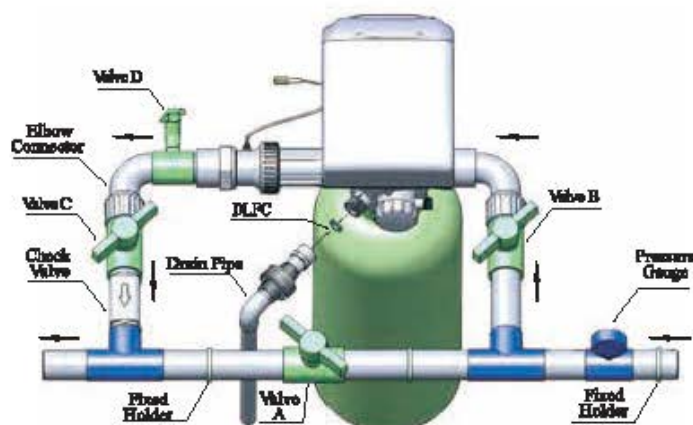

Figure 1-3
③Pipeline connection
- a. As Figure 1-3 shows, install a pressure gauge in water inlet.
Insert drain line flow control into drain outlet and connect the drain outlet with the anti-mated nut, as Figure 1-3 shows.